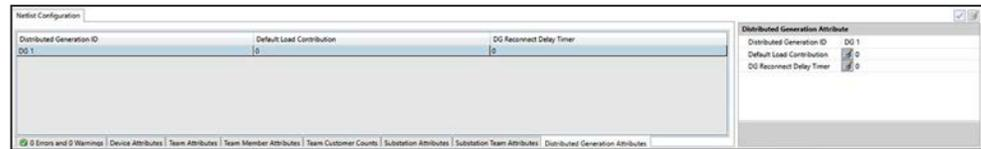

Figure 34. The Distributed Generation Attributes Tab.
This is automatically populated by running the **Validate** command. It provides a unique designation used by the IntelliTeam SG system to identify each distributed generation team. See Figure 34.
**STEP 2.** Put SRC 1 on the left and SRC 2, SRC 3, and SRC 4 on the right. Move the sources on the right so SRC 2 is on the top and SRC 4 is on the bottom. See Figure 34. Text color is automatically adjusted for the source box color.